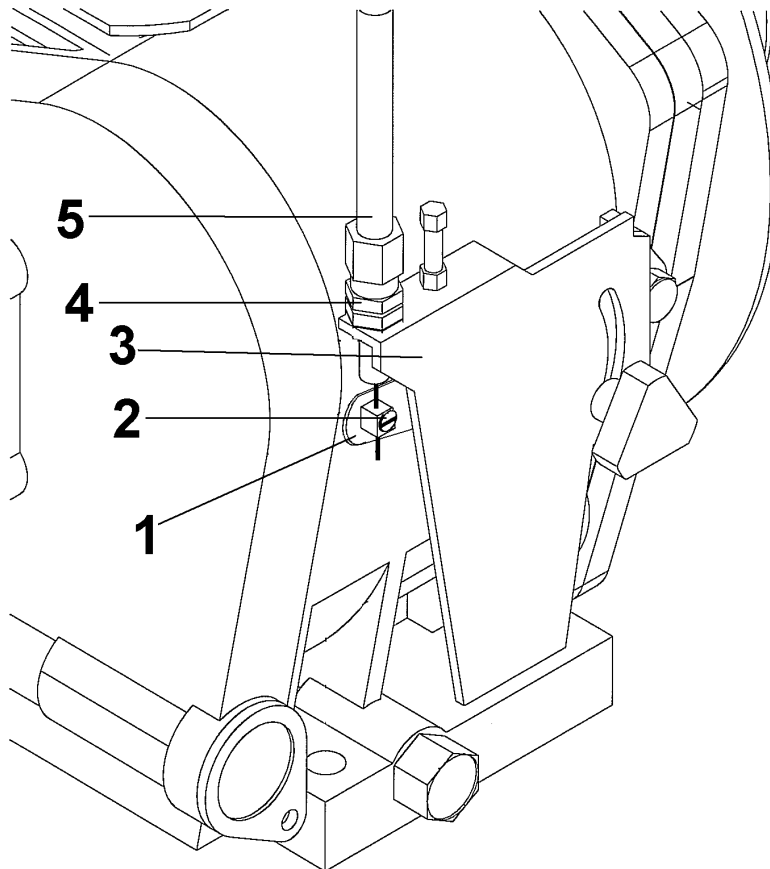

Figure 2. High-Pressure Pump Module Throttle Location.
5. Loosen the setscrew (2) on the throttle arm (1). See Figure 2.
6. Remove cable by loosening lower lock nut (4) on throttle plate (3) and rotating outer sleeve (5) counter-clockwise.
1. Push the throttle cable through the throttle plate (3) and set screw (2). See Figure 2.
2. Screw the throttle cable outer sleeve (5) into the throttle plate (3).
3. Tighten the lower lock nut (4).